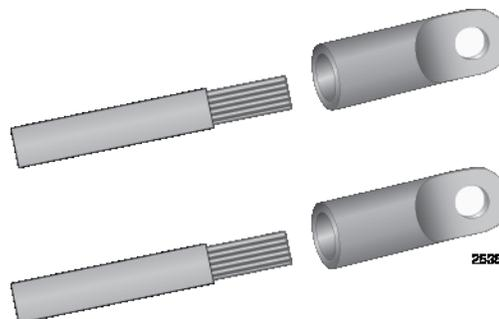

Figure 80. Attaching the Power Wires to the Straight Terminal Lugs
2. Insert the power wires into the terminals included with the power supply and use a crimping tool to secure the wires to the terminals. See Figure 80.